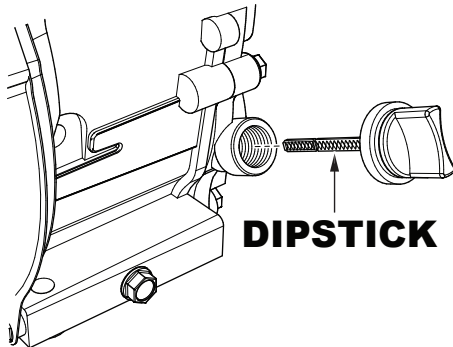

Figure 27. Engine Oil Dipstick
2. Remove the dipstick (Figure 27) from the engine oil filler hole and wipe it clean.